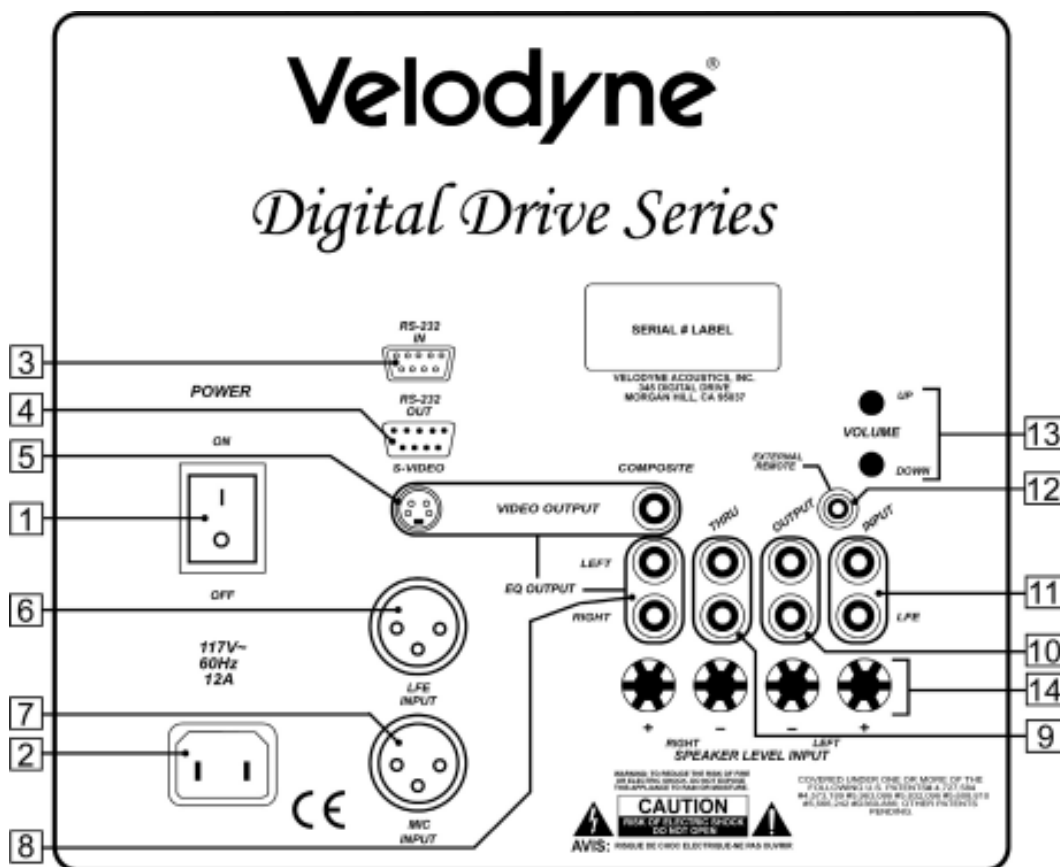

Figure 2: Digital Drive Rear Panel Connections
The Velodyne Digital Drive subwoofer is set up, configured, and adjusted by the controls, inputs, and connections located on the rear panel of the unit. Figure 2 shows the location of each of these important operational interfaces. Brief descriptions of each interface follow.
- a. LFE INPUT (RCA, the RED jack at location 11 on Figure 2) — This is the most common input cable connection. Make a connection between this input and the LFE output or the subwoofer output of your receiver or processor; *OR*
- b. LFE INPUT (XLR, location 6 on Figure 2) — Make a connection between this input and the balanced LFE outputs of your receiver or processor; *OR*
- c. INPUT, LEFT and RIGHT (location 11 on Figure 2) — Make a connection between these inputs and the stereo outputs of your receiver or processor; *OR*
- d. SPEAKER-LEVEL INPUT (location 14 on Figure 2) — Make a connection between these inputs and the left and right speaker connections on your receiver or processor. Make this connection (Figure 2) by either inserting speaker wire into the correct polar terminals, or by removing the banana plug jack caps and inserting banana plug wire into the jacks.
5. Insert the XLR microphone cable's 3-pin male plug into the MIC INPUT jack (location 7 on Figure 2) on the back panel of the subwoofer. For DD-15 and DD-18 units, a microphone jack is also located on the front of the unit for convenience.